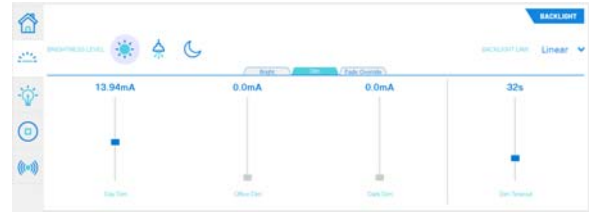

Figure 10. **BACKLIGHT** Dim Tab for Windows
5. Under the **Dim** tab within the **BACKLIGHT** main tab for Windows, users can configure the dim current for **Day Dim**, **Office Dim**, **Dark Dim**, and **Off Timeout Dim** (see Figure 10).